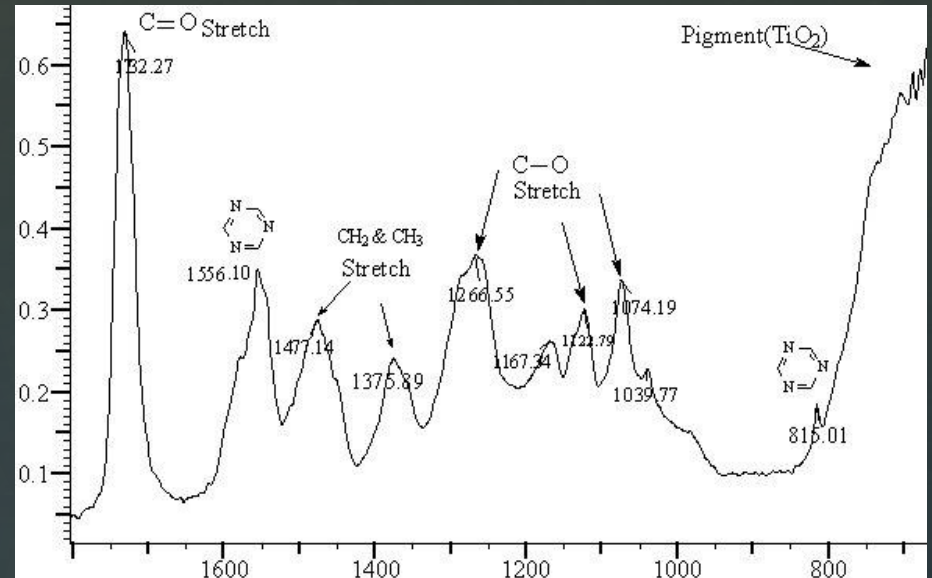

Figure 27 A typical Micro-FTIR spectrum for a paint sample
- From the infrared spectrum of a paint sample, the chemical property of the sample can be determined and characterized. Figure 27 shows a typical micro-FTIR spectrum of a paint sample. In some cases, the type of pigment can also be detected by using Micro-FTIR.